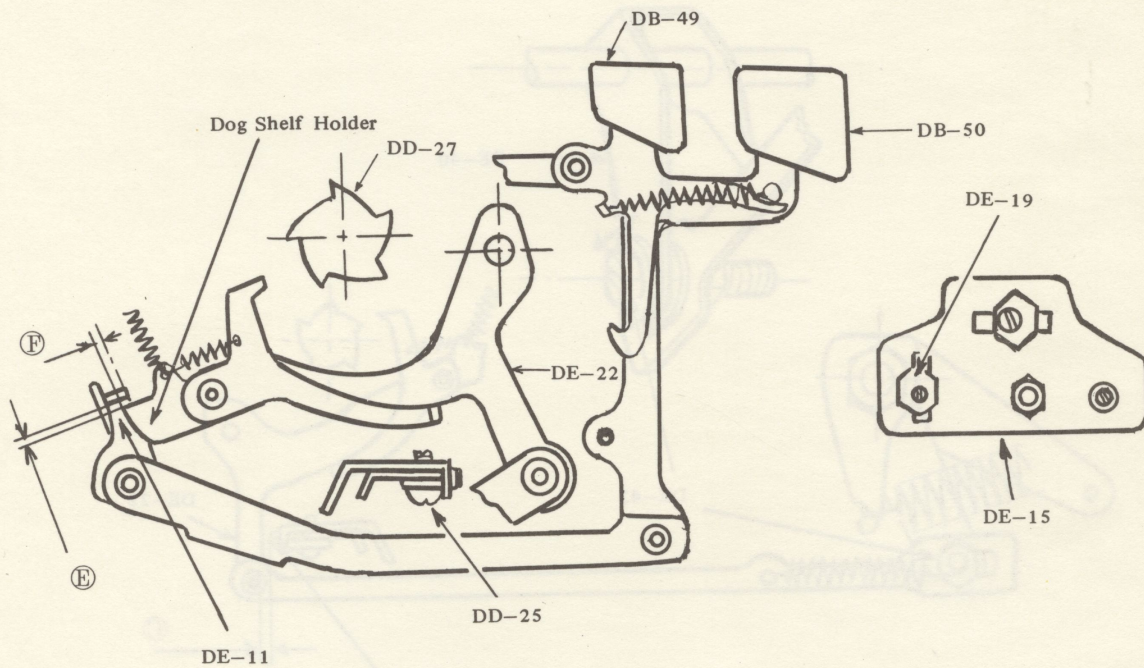

Fig. 20
- (6) When DD-27 (Snatch Roll) is rotated by hand and DB-50 (Shift Key) is depressed, adjust the degree of driving force of Dog Shelf by DD-25 (Adjustment Screw) to obtain the degree of over-run^F of DE-22 against DE-11 as 0.2 to 0.4 mm. (Fig. 20).
- (7) Adjust the position of DE-15 by DE-19 to obtain the degree of interlocking^F between DE-22 and DE-11 as 0.5 to 1.1 mm. When press down DA-74 by hand in this case, the clearance^G between DE-22 and DE-11 should be 0.1 to 0.3 mm. (Fig. 20,21)